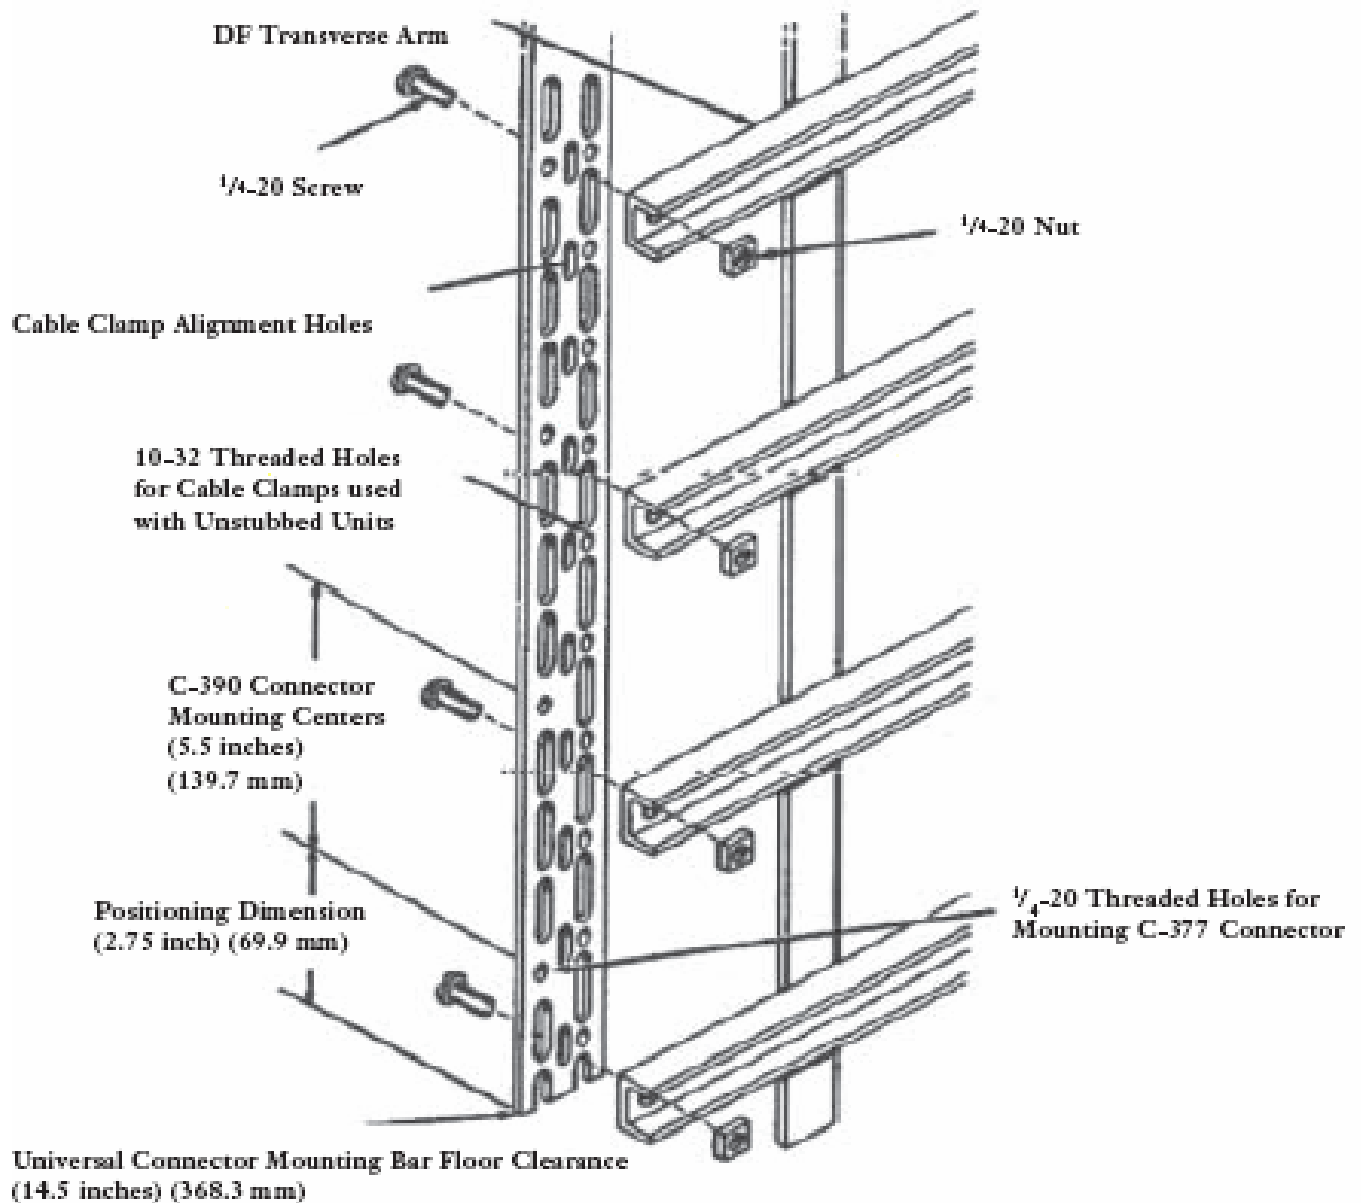

Figure 3
- 4.4 By attaching to the ends of the transverse arms, the universal connector mounting bar can be used in place of the existing bar on MDFs with removable mounting bars (Figure 3).